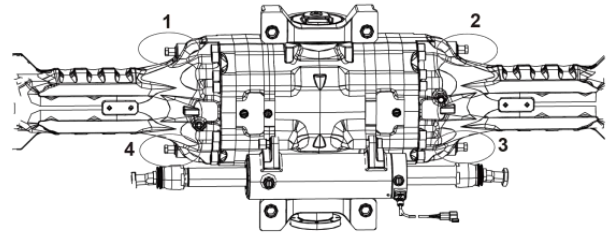

Figure 10-2 Brake Release
- 2) Unscrew the four brake release screws of the rear axle inwards, as shown in Figure 10-2.